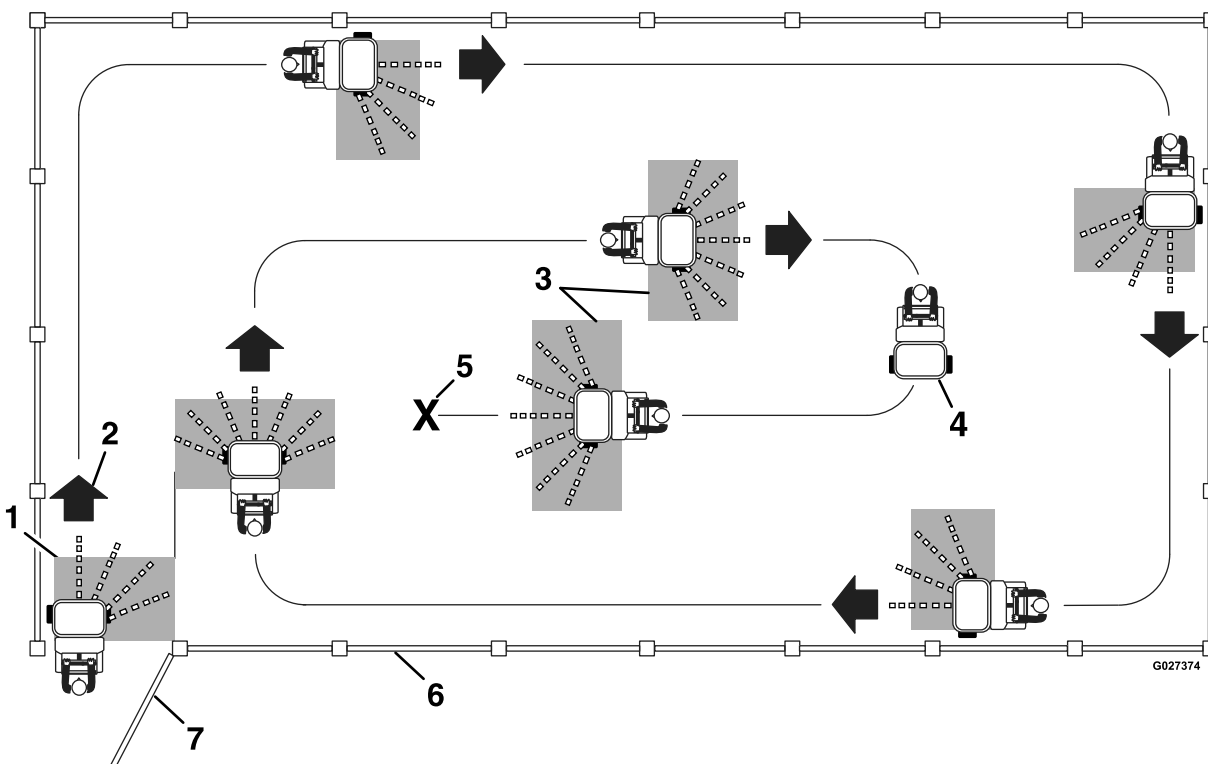

Figure 38
- To ensure uniform application, broadcast the material in an overlapping pattern as shown in Figure 38.